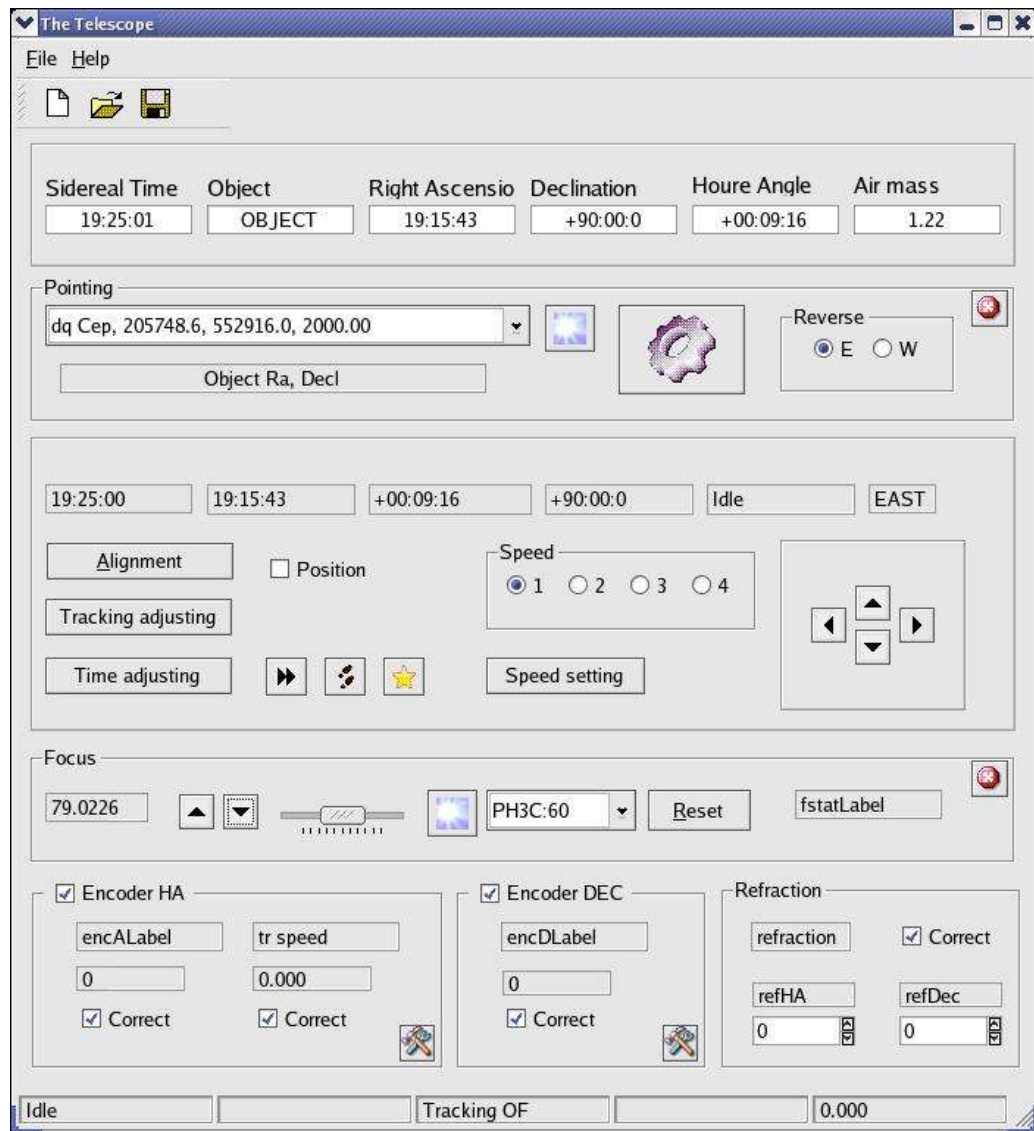

Fig. 2a. GUI panel of the telescope control program (from R.Janulis).
2.4. Launch the program **telescope**. The GUI (Graphical User's Interface) panel appears as shown in Fig. 2a. (All control programs are the same as for 165 cm telescope. They are prepared by R. Janulis).
When the coordinate scale is set on, pointing to the program star may be done by entering its coordinates. To enter new target coordinates, click on the star icon (☐ in Pointing section, at right-hand side from the line with object RA and DEC, on Fig. 2a) and after that a dialogue window will appear. Fill in the new coordinates and click OK to accept input or Cancel to discard. Click on the gear icon (⚙ in the same Pointing section) to point the telescope to the entered coordinates. During the movement of the telescope some information is displayed on the status bar of GUI panel. The pointing is accomplished when Tracking is indicated. If you need to cancel pointing, click on the icon „Cancel“.